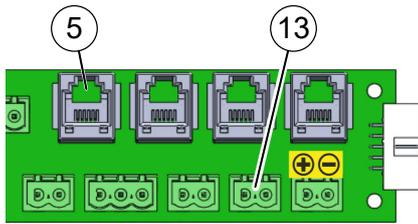
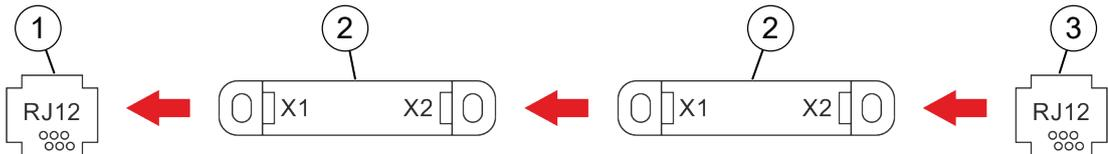

Fig. 32: Connections for door contact switches
Fig. 33: Installation diagram
Door contact input "5" (Fig. 32/5) is designed for the *Rittal* "RJ12 plug" door contact switch (Fig. 33/2).
- 1 Door contact input "5" (Fig. 32/5)
1. ➤ Connect the "RJ12 plug" door contact switch (Fig. 33/2) to door contact input "5" (Fig. 32/5) as per Fig. 33.
2. ➤ Connect the "Terminating resistor" RJ12 plug (Fig. 33/3 or Fig. 34/1).
- Remove the pre-fitted end-of-line resistor (Fig. 32/13) when using the "RJ12 plug" door contact switch.